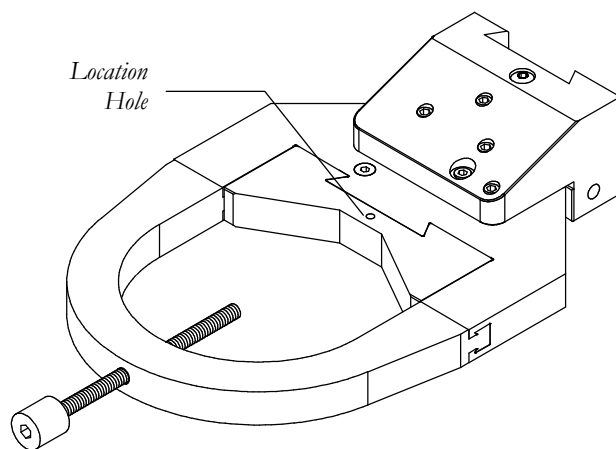

Figure 10
STEP 14. Cut a truncated Vee shape wire cut into the insert to accept up to a 4 inch diameter round as shown in Fig. 10.